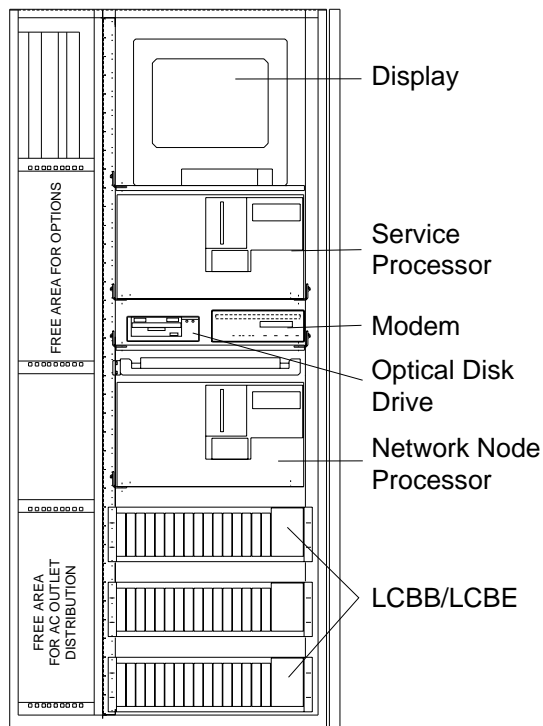
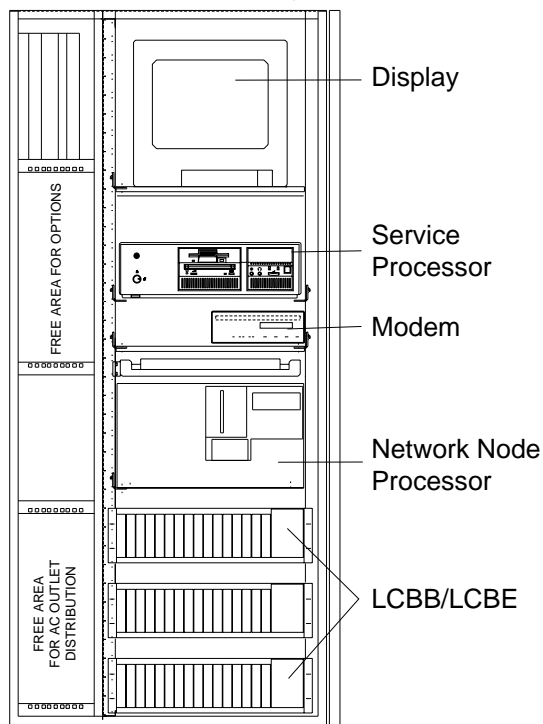
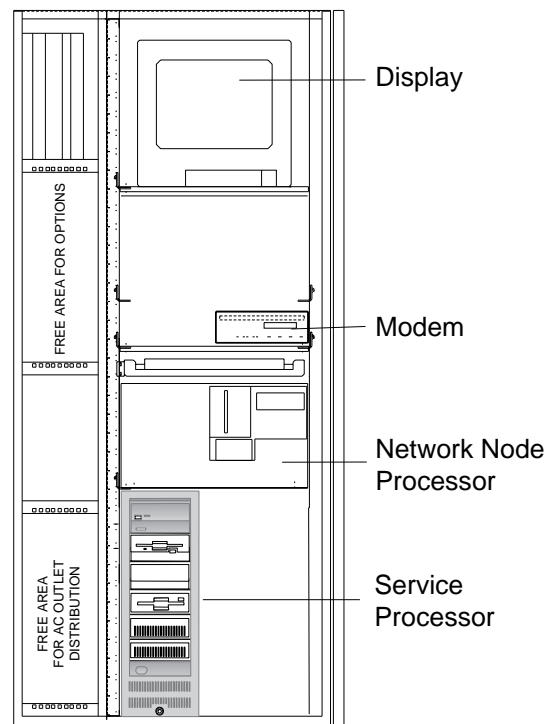

Figure 6. Service Processor type 3172.
Figure 8. Service Processor type 9577
Figure 9. Service Processor type 9585
- To install the Service Processor in the Controller Expansion, depending on the type, as shown in Figure 6 on page 14, Figure 8 on page 14, or Figure 9 on page 14 using the corresponding documentation: